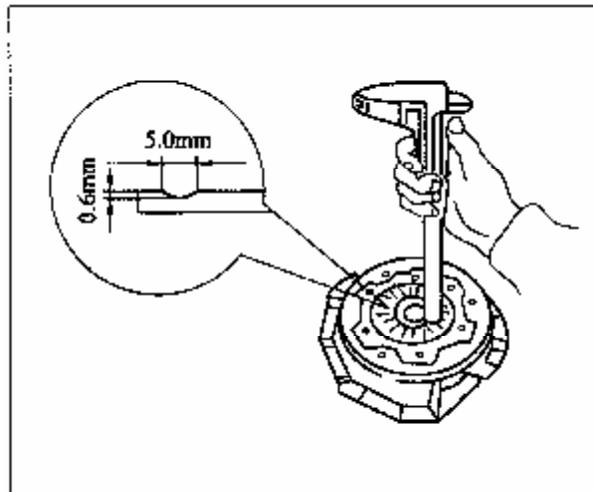

Figure 3-64 Measure Wear on Diaphragm Spring
**3.10.3** Check diaphragm spring for wear. As shown in Figure 3-64, measure depth and width of wear on diaphragm spring with a caliper. The maximum value: depth 0.6mm, width 5.0mm.